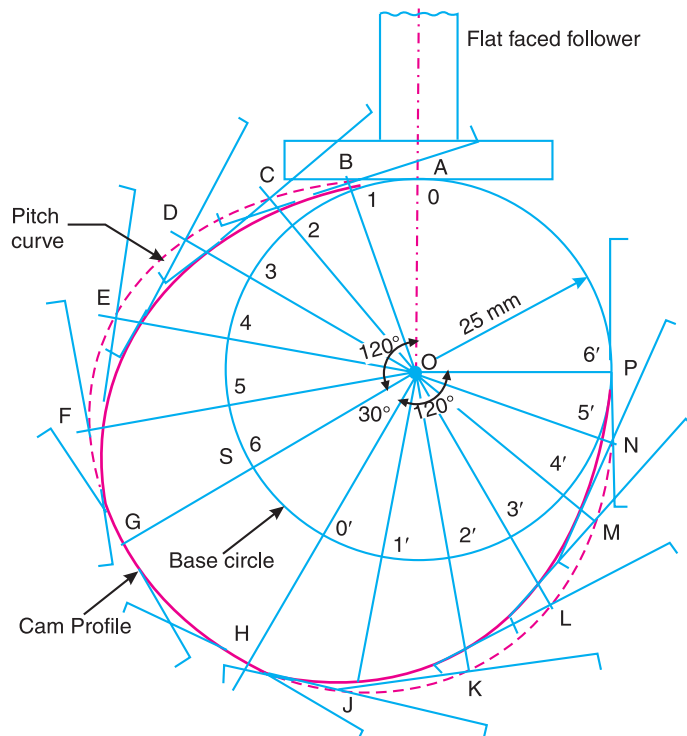

Fig. 20.20
Now the profile of the cam driving a flat reciprocating follower, as shown in Fig. 20.20, is drawn as discussed in the following steps :
7. The curve drawn tangentially to the flat side of the follower is the required profile of the cam, as shown in Fig. 20.20.